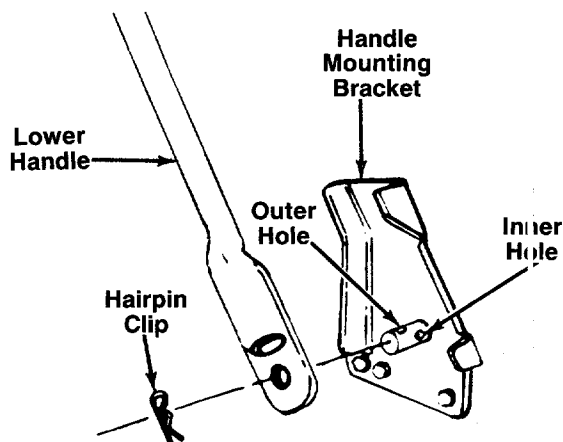

FIGURE 1.
3. Using a pair of pliers, squeeze one leg of the lower handle against the handle mounting bracket. Insert the hairpin clip into the **inner** hole on the weld pin. See figure 1.